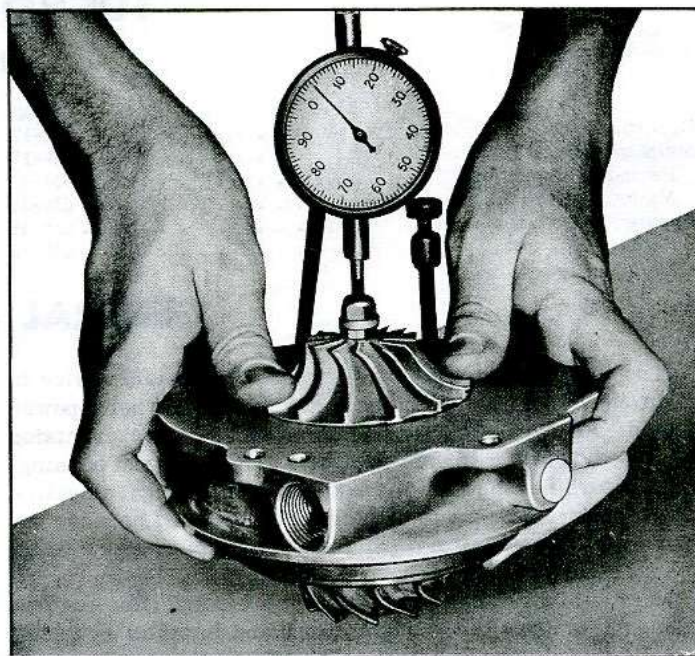

Fig. 37—Gauging Turbine Shaft End Play
- a. Attach a dial indicator to the bearing housing so that indicator point is resting on the impeller nut (fig. 37).